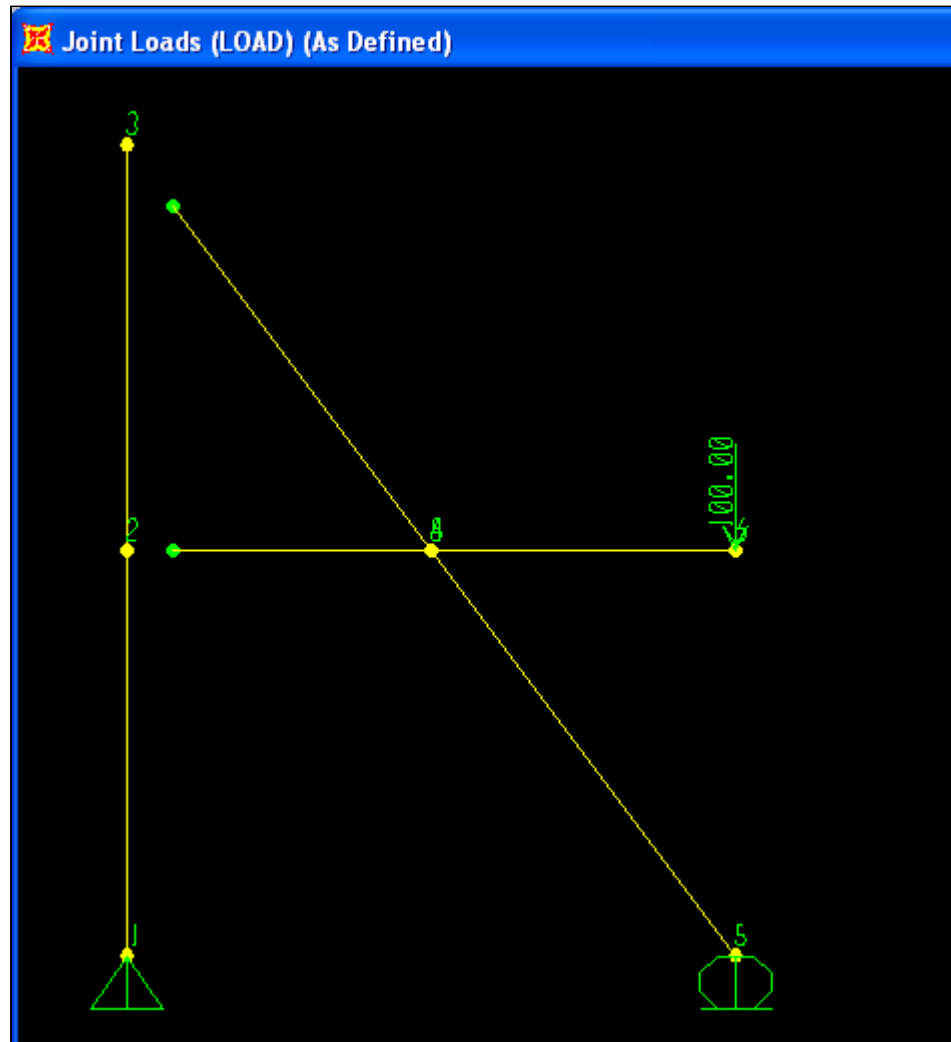

Figure 4 - Load application
9. Use the LOAD load pattern to assign a 100kN load, in the gravity direction, at joint 6. The resultant configuration is shown in Figure 4: